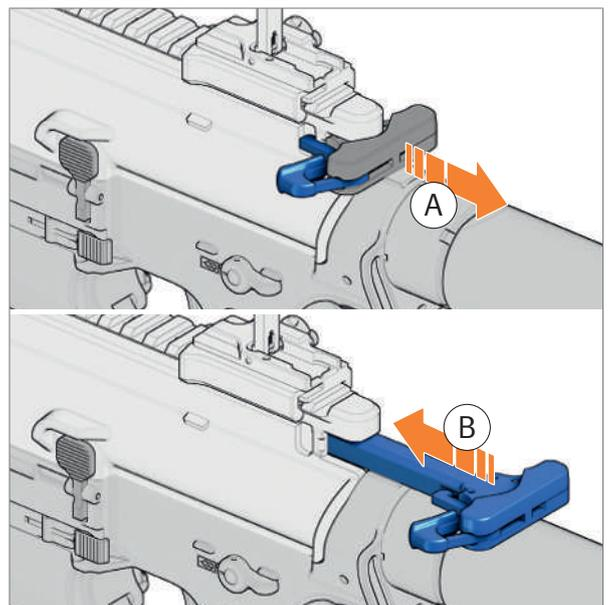

Fig. 19: Move charging handle slowly forwards
1. Pull charging handle all the way back and hold it (*Fig. 19*).
2. Move charging handle slowly forwards and lock it in place (*Fig. 19*).